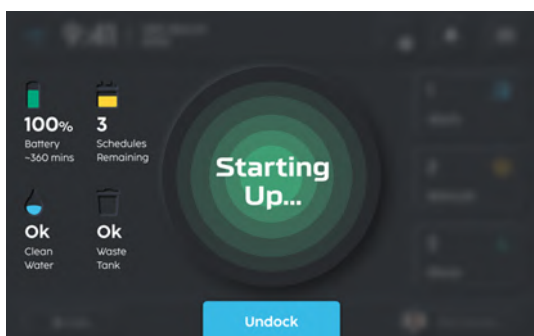

FIGURE 12-8
4. When the machine has docked, the touchscreen will turn green and reflect 'Starting Up' (**Fig. 12-8**). This indicates that the machine has docked. However, the machine may reattempt docking if the machine fails to start charging.
- The touchscreen will turn green and reflect 'Starting Up' (**Fig. 12-8**). This indicates that the machine has docked. However, the machine may reattempt docking if the machine fails to start charging.